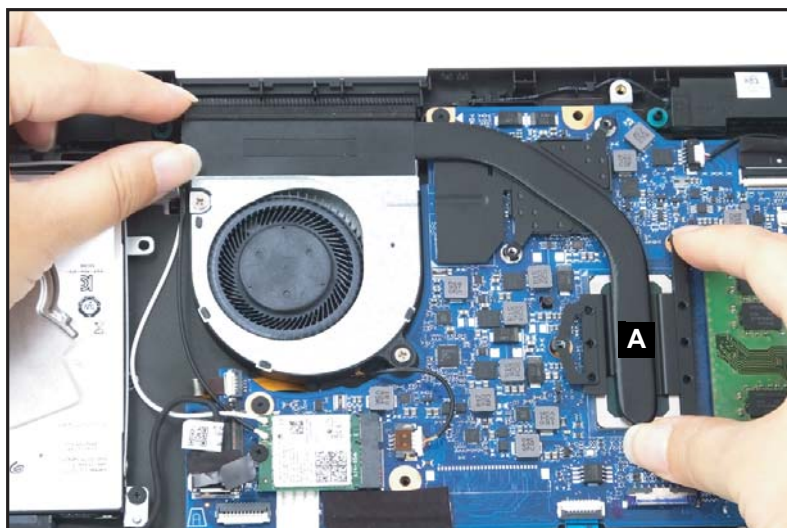

Figure 1-17. Heatsink Removal
2. Remove the heatsink (A) from the mainboard and top assembly (Figure 1-17).